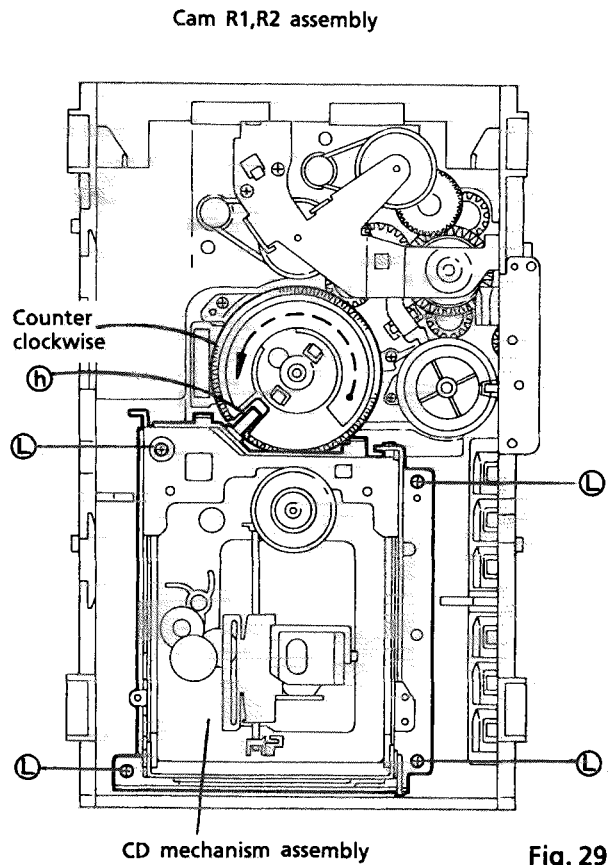

Fig. 29
2. Rotate the Cam R1, R2 ass'y counterclockwise so that CD mech. ass'y's shaft ⑧ is positioned as shown in Fig. 29.
3. Remove 4 screws ① securing CD mech. ass'y. (See Fig. 29.)